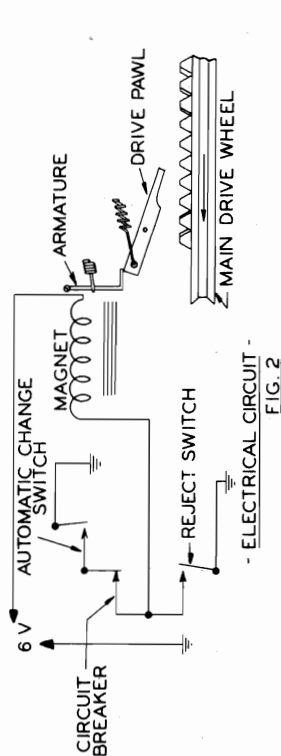

FIG. 2
4. The first momentary contact of the automatic change switch is all that is necessary to start the changing cycle. When the switch closes, a small electro magnet is energized. The electro magnet pulls an armature back out of the way, permitting a drive pawl which is mounted on the cam wheel to fall down and engage in one of the notches which are provided on the upper surface of the main drive wheel. (See Fig. 2.)